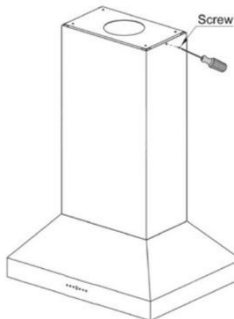

Figure 5.
10. Slide top chimney piece up over the Upper frame on the ceiling and secure it in place with the provided screws. *Figure 5*